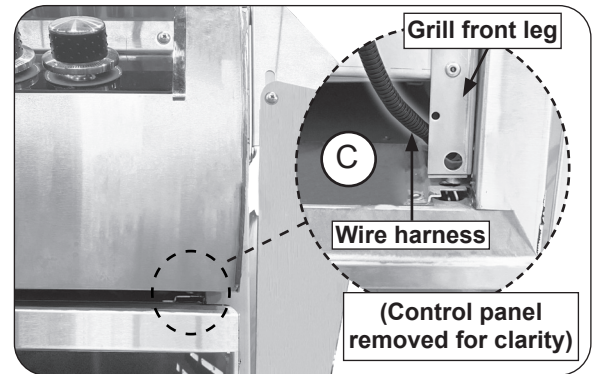

Fig. 11-2 Route wire harness
2. **While installing,** insert the wire harness into the open cavity on the right side of the cart base. Ensure to route the wire harness on the left side of the grill front leg while inserting (see Fig. 11-2, C). Routing the wire harness on the right side of the grill front leg will cause pinching and damage of wiring.